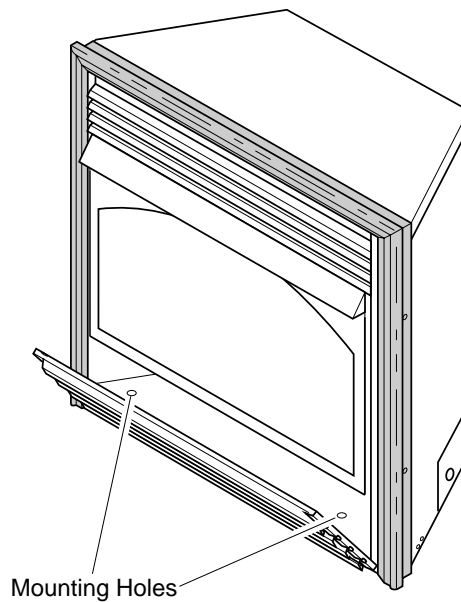

Figure 13 - Floor/Hearth Mounting Holes
8. Attach fireplace to floor using wood screws through holes in bottom of base. Open lower louver to locate screw holes (see Figure 13).